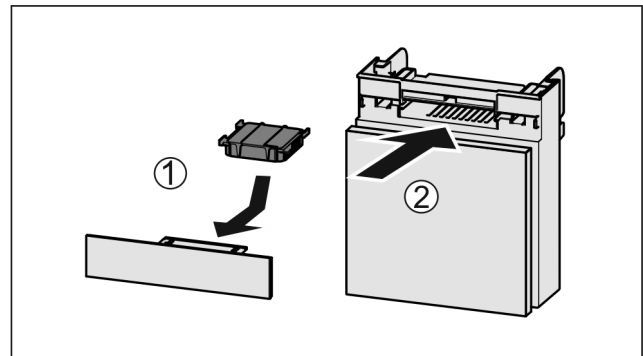

Fig. 143
- Insert the carbon filter as shown in the diagram Fig. 143 (1).
- Push the compartment in Fig. 143 (2).